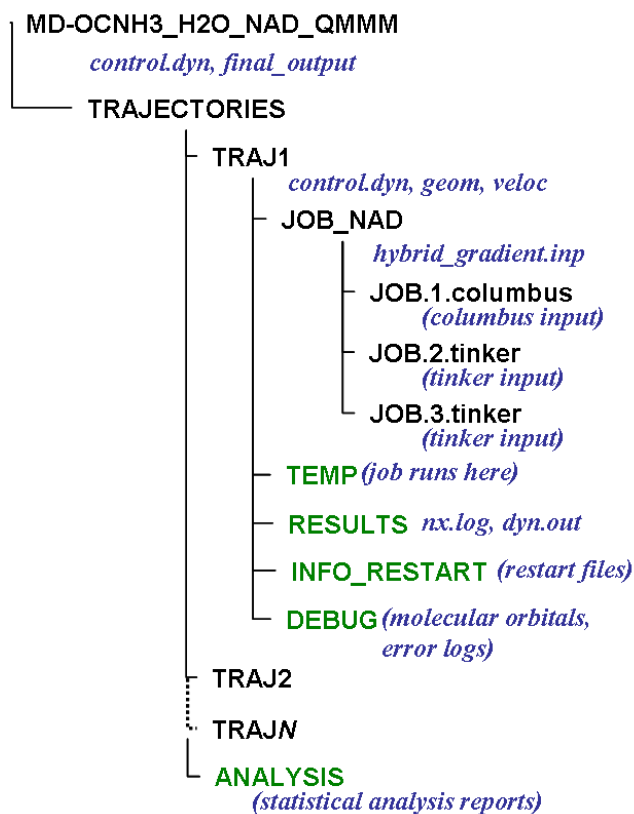

Fig. 16. Directory tree for a complete QM/MM surface hopping dynamics job with NEWTON-X.
13. The trajectories have been created in the TRAJECTORIES directory from where you can run them as usual. The final directory structure is shown in Fig. 16, including the results directory.